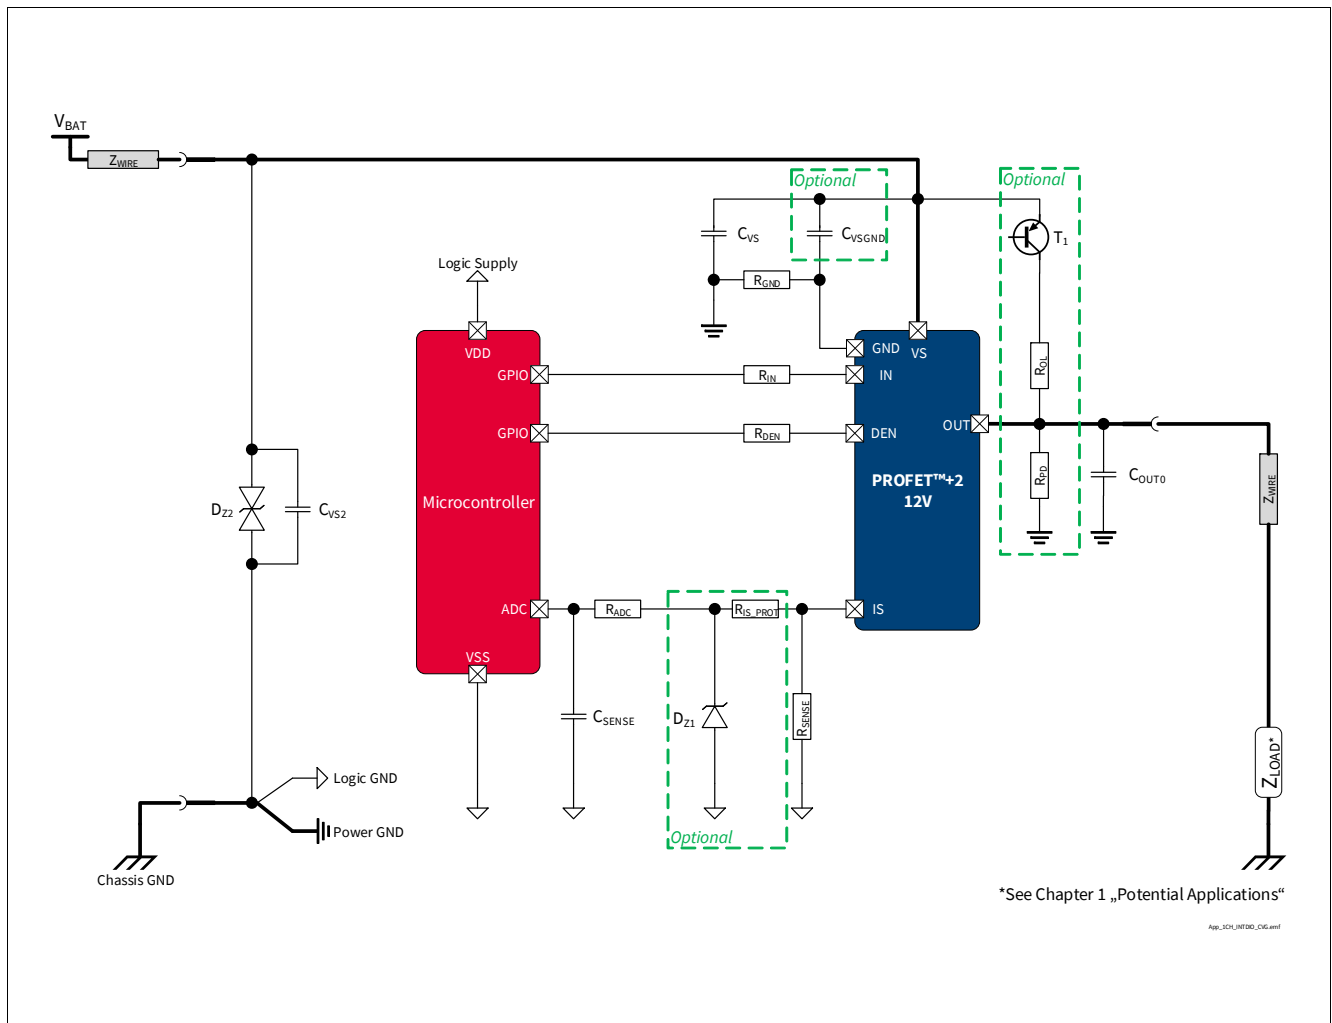

Figure 42 BTS7040-1EPA Application Diagram
1.02, 2019-10-15	P_8.7.6.1, P_8.7.6.7, P_8.7.6.8 updated (added in Note or Test Condition: link to Figure 25) P_8.7.6.6 updated (added in Note or Test Condition: link to Figure 26) P_7.5.6.4, P_7.5.6.5 updated (added in Note or Test Condition: DEN = “low”; link to Figure 19) P_7.5.6.12 updated (added in Note or Test Condition: see Figure 21 ; deleted unnecessary space in Symbol: dVOUT / dt → dVOUT / dt) P_9.7.6.1 updated (added in Note or Test Condition: See Figure 34) P_9.7.6.6 updated (Min./Typ./Max.: -40%/1800/+40% → -26.0%/1750/+26.0%) P_9.7.6.8 updated (Min./Typ./Max.: -35%/1800/+35% → -23.5%/1750/+23.5%) P_9.7.6.9 updated (Min./Typ./Max.: -30%/1800/+30% → -20.5%/1750/+20.5%) P_9.7.6.12 updated (Min./Typ./Max.: -26%/1800/+26% → -19.0%/1750/+19.0%) P_9.7.6.15 updated (Min./Typ./Max.: -11%/1800/+11% → -9.7%/1805/+9.7%) P_9.7.6.17 updated (Min./Typ./Max.: -6%/1800/+6% → -6.0%/1805/+6.0%) P_9.7.6.19 updated (Min./Typ./Max.: -5%/1800/+5% → -4.5%/1805/+4.5%) P_7.5.6.11 updated (added in Note or Test Condition: see Figure 19) P_4.2.6.6 updated (Max.: 7.5 mJ → 9 mJ) Figure 1 , Figure 42 updated Chapter 1 updated (or LED equivalent → or equivalent electronic loads (e.g. LED modules)) P_4.3.0.7 added Table 23 updated Chapter 5.1 updated (added: see Chapter 10 for the complete application setup overview)